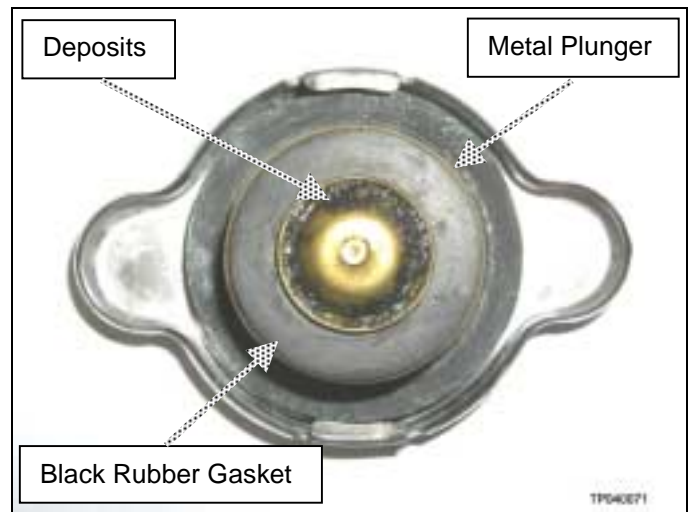

Figure 4
C. If the Metal Plunger can be seen around the edge of the Black Rubber Gasket, but there are deposits of waxy residue or foreign material on the gasket or the metal retainer (see Figure 4), the radiator cap must be replaced.